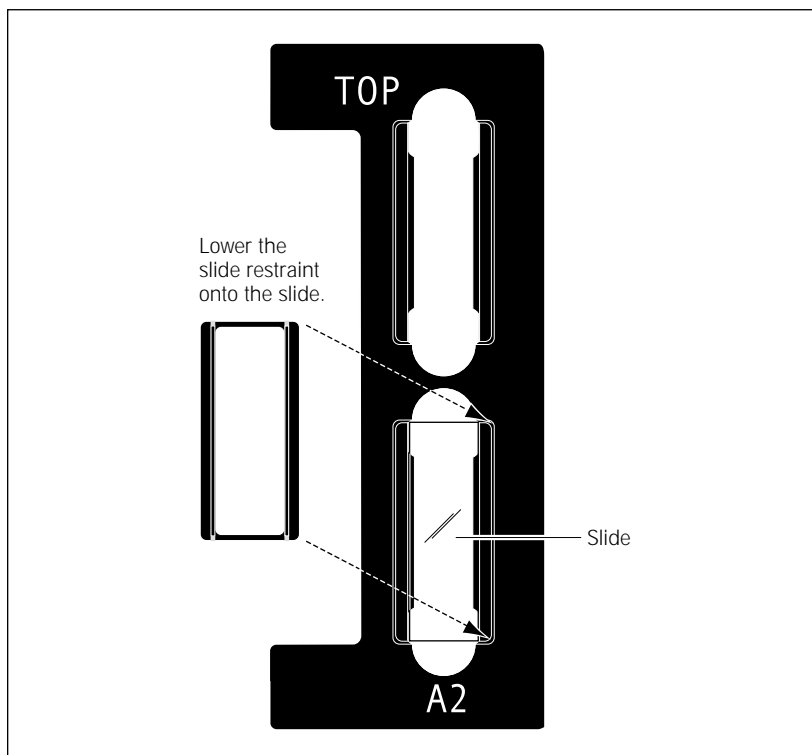

Figure 8-6. Positioning the slide restraint on the slide holder.
7. Place a slide restraint over each slide as shown in figure 8-6. Make sure each restraint is correctly positioned in the grooves on the slide holder.